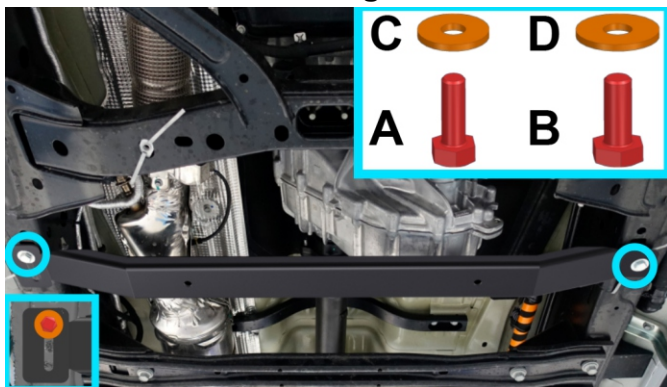

Fig. 3
2. Secure the supplied crossmember (item 2) to the previously installed M10 insert nuts (item F) using M10x1.25x30 bolts (item A) and M10 washers (item C) as shown in fig.3&4. If there is a factory threaded hole, use supplied M12x1.75x30 bolt (item B) and M12 washer (item D) on the passenger side.